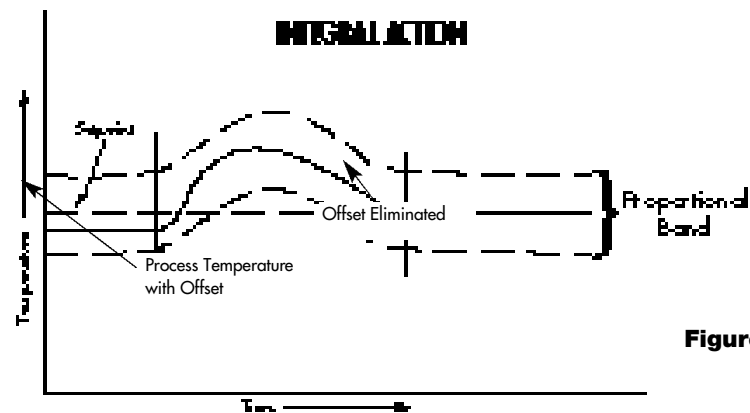

Figure 7.
3. Proportional with Integral (PI), automatic reset. **Figure 7.** Integral action moves the proportional band to increase or decrease power in response to temperature deviation from setpoint. The integrator slowly changes power output until zero deviation is achieved. Integral action cannot be faster than process response time or oscillation will occur.
4. Proportional with Derivative (PD), rate action. Derivative moves the proportional band to provide more or less output power in response to rapidly changing temperature. Its effect is to add lead during temperature change. It also reduces overshoot on start-up.